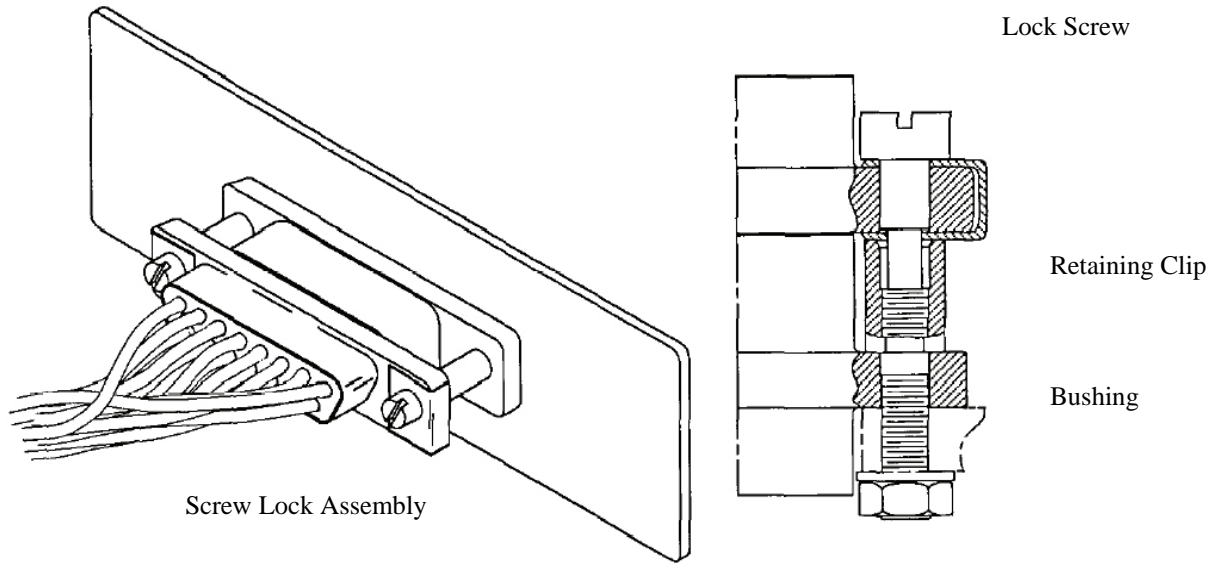

Figure 1. Screw Lock Assembly Part Number 322-9500-000
2. This Work Package (WP) contains the mounting hardware for MIL-DTL-83513 connectors. Vendor part numbers given as reference only, any qualified vendor with suitable product may be used.
5. Screw Lock Assembly. The screw lock assembly can be used for front mounting only (Figure 1). The lock screw torque value is 4.0 in./lbs.